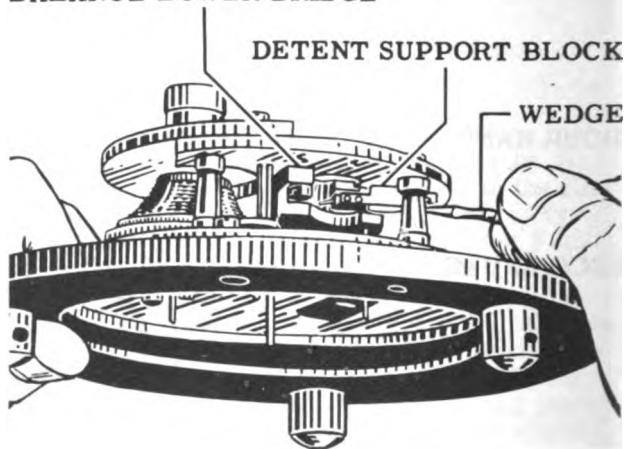

Figure 23
25. Place wedge (Tool No. 11) between balance lower bridge and detent support block. See Fig. 23. Remove detent support block screw and place screw in tray.